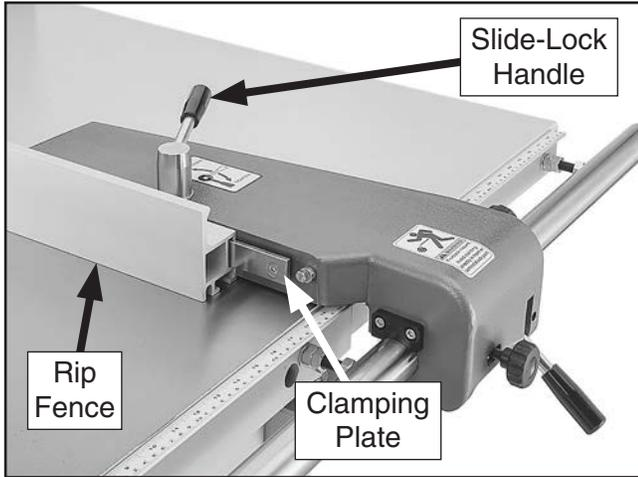

Figure 29. Rip fence attached to rip fence base.
- Slide rip fence onto clamping plate, as shown in **Figure 29**, and lock it with slide-lock handle.